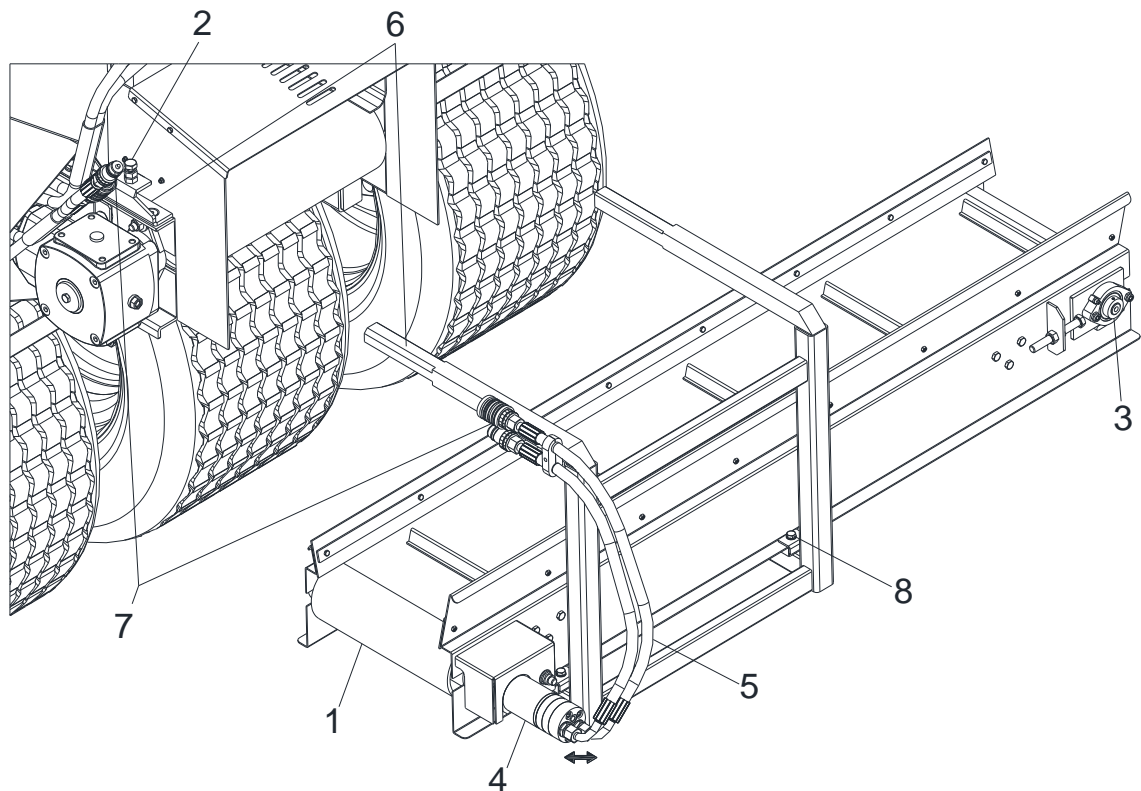

Fig. 16 Cross conveyor belt unit
The optional cross conveyor belt (Fig. 16/1) is used for lateral spreading of the spreading material. The cross conveyor belt is inserted into the same mounting (Fig. 16/2) as the disc spreading unit and bolted to the support (Fig. 16/6). Either the disc spreading unit or the cross conveyor belt unit can be mounted on the disc spreader.
2. Disconnect the hydraulic plug connections (Fig. 16/7).
3. Loosen the screws of the mounting (Fig. 16/2) on both sides and pull off the disc spreading unit.
4. Push the support (Fig. 16/6) of the cross conveyor belt unit (Fig. 16/1) into the receptacle (Fig. 16/6) and secure with the screws (Fig. 16/2) on both sides.
5. Connect the hydraulic connections of the cross conveyor belt (Fig. 16/5) with the counter connections (Fig. 16/7).
6. The cross conveyor belt is switched on and off with the same control elements as the disk spreader unit. To change the direction of rotation, the two hydraulic connections on the hydraulic motor must be swapped. (Fig. 16/4).
7. Depending on the requirements and desired spreading direction, the cross conveyor belt can be shifted to the right and left as far as it will go by loosening the screws (Figure 16/8).
The lift conveyor belt (Fig. 17/1) is used for lateral spreading of the spreading material and for transferring the spreading material to another vehicle. The lift conveyor belt is inserted into the same holder (Fig. 16/2) as the disk spreader unit and bolted to the carrier (Fig. 16/2). Either the disk spreader unit or the lift conveyor belt can be mounted on the disc spreader.
3. Loosen the screws of the mounting (Fig. 16/2) on both sides and remove the disk spreader unit.
5. Connect the hydraulic connections of the lift conveyor belt (Fig. 17/5) to the mating connections (Fig. 16/7).